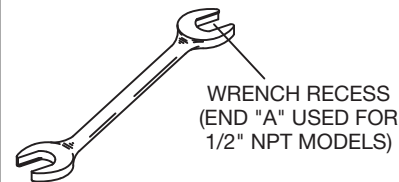

FIGURE 5
Step 3. Tighten the sprinkler into the sprinkler fitting using only the W-Type 6 Sprinkler Wrench (Ref. Figure 5), With reference to Figure 1 or 2, the W-Type 6 Sprinkler Wrench is to be applied to the wrench flats.